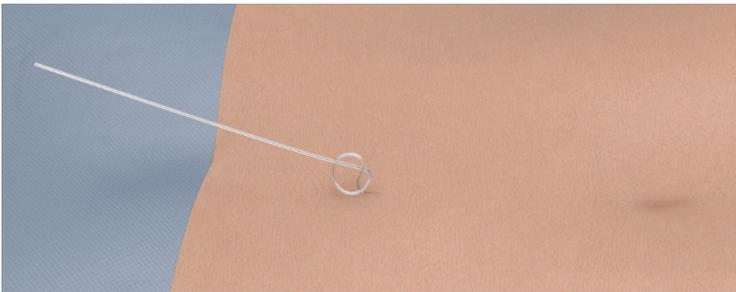

Figure 11
2. Tie a knot in the Electrode Array containing the Receiver and push the knot to distal edge of the subcutaneous Receiver pocket. Knot must be proximal of marker bands. (Figure 11).